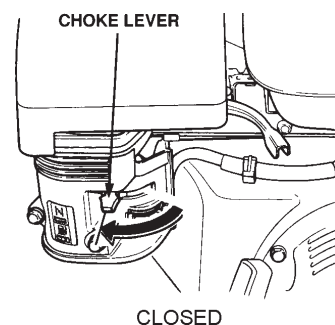

Figure 4. Engine Choke Lever (Closed)
4. Place the **choke lever** (Figure 4) in the "CLOSED" position if starting a **warm engine** or the **temperature is warm**.